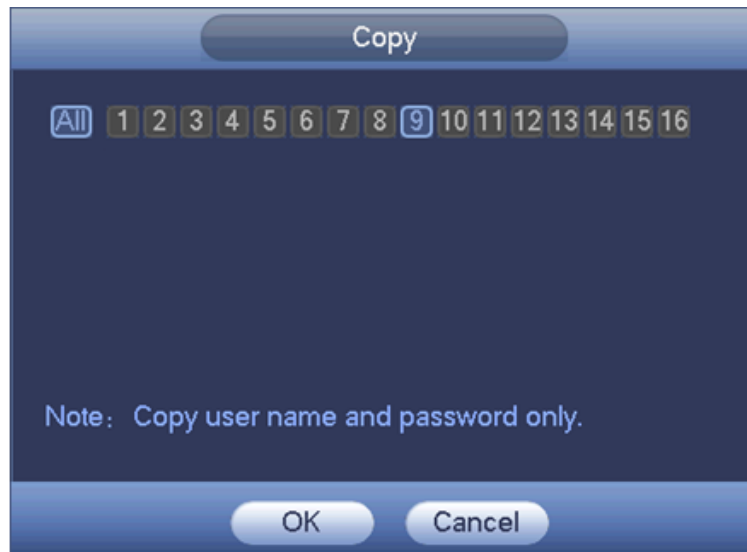

Figure 4-30
- ◇ Click Copy, device pops up the following dialogue box. It is to copy the user name and password to the selected channel(s). See Figure 4-30.